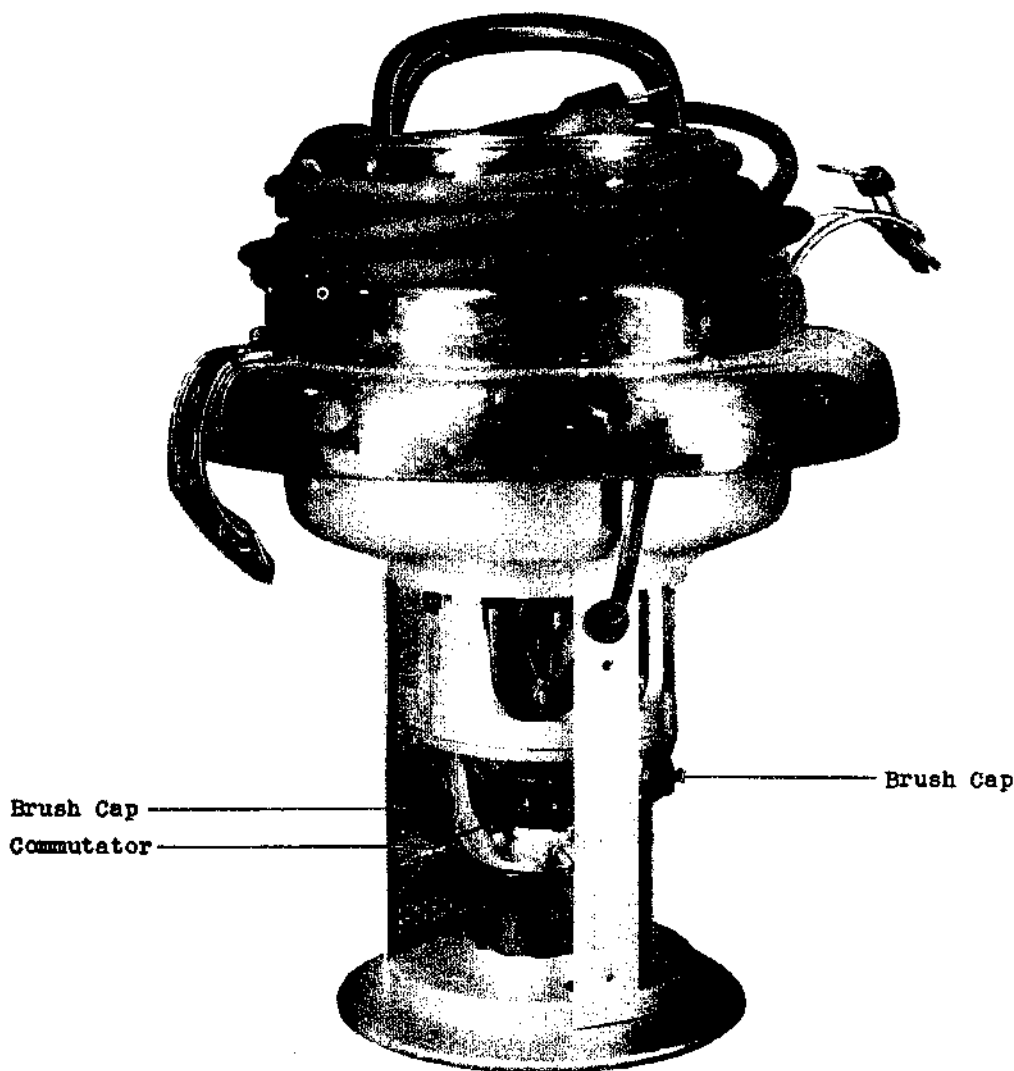

Fig. 4 - Motor Unit - Shield Removed
(6) Clean the commutator, Fig. 4, as required by rubbing with a clean KS-14666 cloth.
- (3) Remove the brush caps, Fig. 4. Notice the position of the brushes in the holders. Remove and inspect the brushes. If the brush lengths meet the requirement, place them back in the holders be-